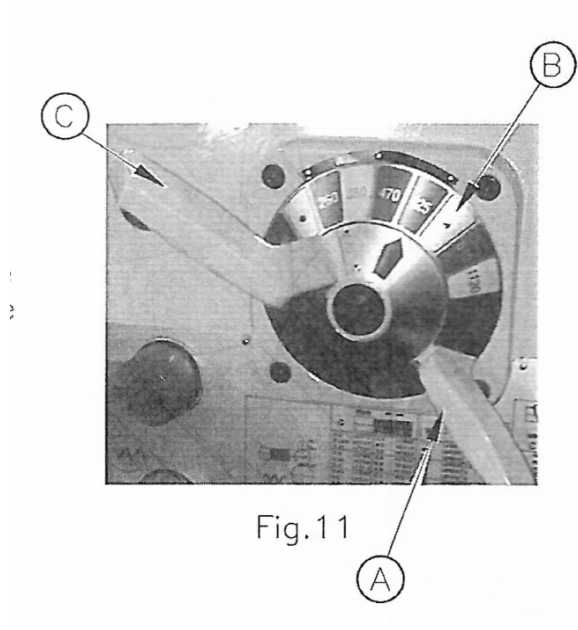

Figure 4-5: Spindle speed dials
Select the spindle speed with the grouped dial controls on the headstock (Figure 4-5). The sixteen speeds are shown on the lever-operated dial (A) in four groups, each with four spindle speeds.
- 1 Turn dial (A) with the large handle to bring the required speed group uppermost, opposite the fixed section (B).
- 2 Turn the other handle dial (C) until the coloured arrow lines up with the required speed on the uppermost dial group.